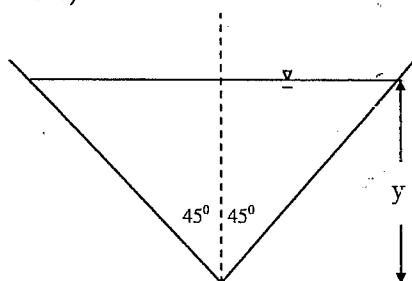
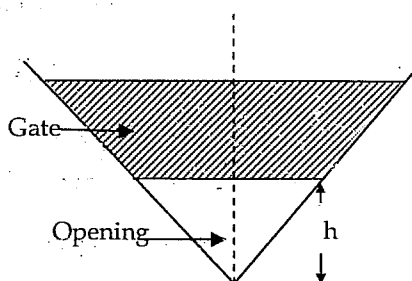

Figure 1a
Figure 1b
1) A horizontal open channel has a uniform triangular cross-section with a vertex angle of  $90^\circ$  as shown in Figure 1a. The channel is closed using a special gate that maintains an opening of height  $h$  with the same triangular cross-section as shown in Figure 1b. The channel carries a discharge of  $1 \text{ m}^3/\text{s}$ .